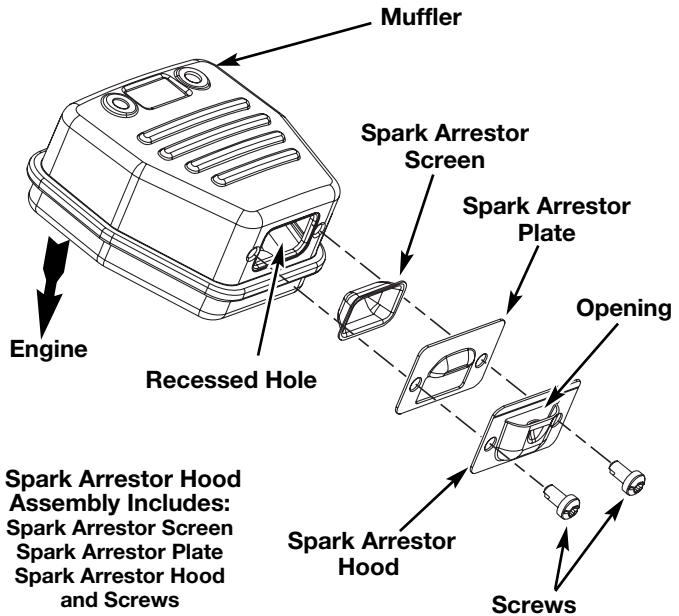

Fig. 21
2. Locate the muffler, but do not remove it. Find the two (2) screws on the bottom of the muffler (Fig. 21). These two screws hold the Spark Arrestor Hood Assembly and the spark arrestor screen to the bottom of the muffler. Remove the two (2) screws using either a Torx T20 or flat blade screwdriver.
6. Place the spark arrestor plate on top of the spark arrestor screen with the "raised" side up and the opening facing towards the engine (Fig. 21).
7. Place the spark arrestor hood on top of the spark arrestor plate with the "raised" side up and the opening facing AWAY from the engine (Fig. 21). Verify that the exhaust will be directed AWAY from the engine.